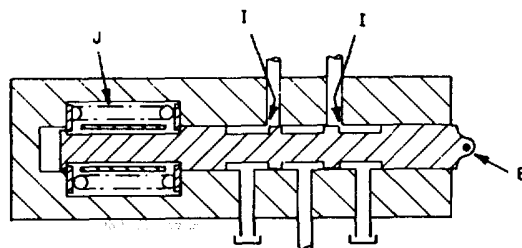

FIGURE 4
When the mixer control handle is moved to neutral position, the displacement control spool is returned to neutral by a spring (J). This allows oil from both servo cylinders to flow into the pump case through the small underlaps (I). (Refer to figure 4.) Both servo cylinders are thus exhausted and one of the servo springs (G) mechanically forces the swashplate to neutral.